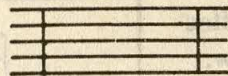

FIG. 2.4.19
23. Place the two shorter wires as shown in Fig. 2.4.19 leaving a distance of 5 cm on either side and get them brazed.